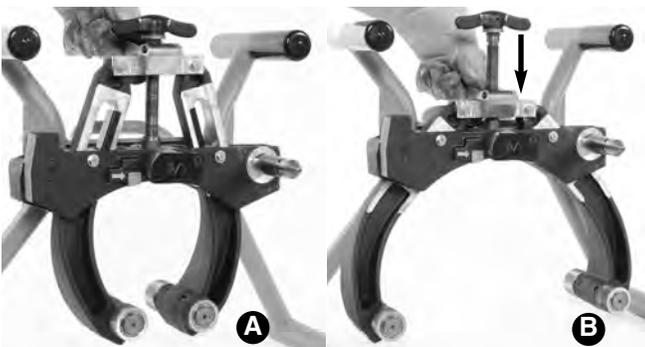

Figure 8 – Quick Release Lever
- Press the quick release lever (A) and push the upper carriage down (B) to fully open the clamp. See Figure 8.